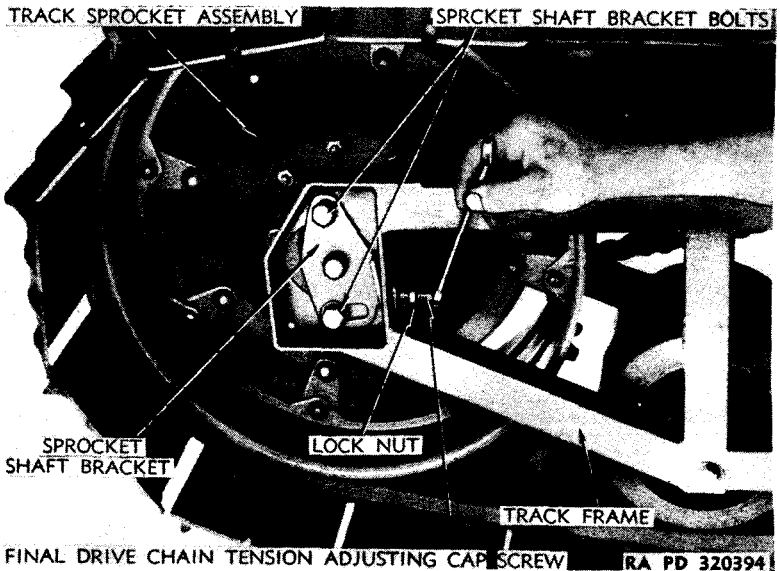

Figure 94—Adjusting Chain Tension
b. **Adjustment of Chain Tension.** Loosen upper and lower bolts holding track sprocket shaft brackets to track frame on each side enough to allow brackets to move. Loosen lock nut on chain adjusting cap screw. Turn cap screw clockwise to tighten final drive chain, or counterclockwise to loosen (fig. 94). The chain is properly adjusted